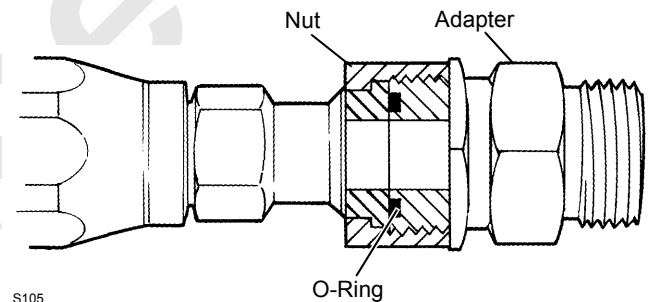

FIGURE 2-13
1. Lubricate and install O-ring in adapter groove (Figure 2-13).